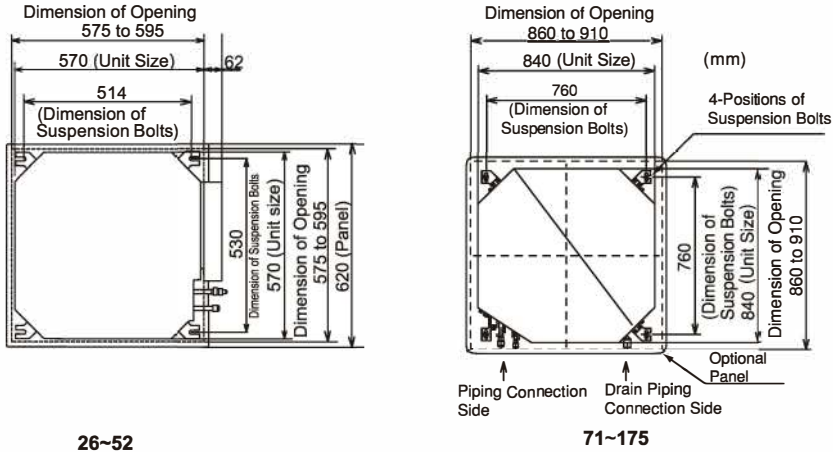

Fig. 3.3 Opening of False Ceiling and Suspension Bolts
- (2) Cut out the area for the indoor unit in the false ceiling and install suspension bolts, as shown in Fig. 3.3.